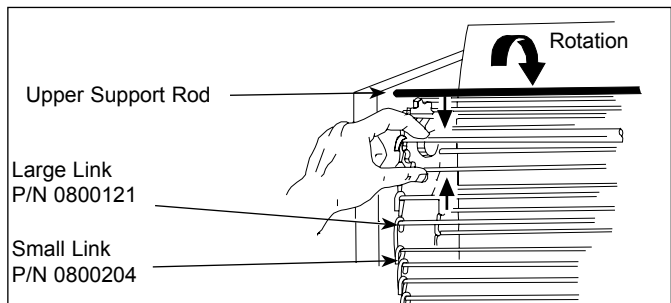

Figure 6. Removing Conveyor Belt Chain
7. Disconnect the Conveyor Belt Chain by squeezing any two links together and unhooking both ends of one link (Figure 6). Needle-nose pliers may be used.
1. Disconnect the Conveyor Belt Chain by squeezing any two links together and unhooking both ends of one link (Figure 6). Needle-nose pliers may be used.
3. Place the replacement Conveyor Belt Chain on the top sprockets with hook ends down. Check for correct positioning (Figure 6).
NOTE: The ends of the hooks must point down. (Figure 6).